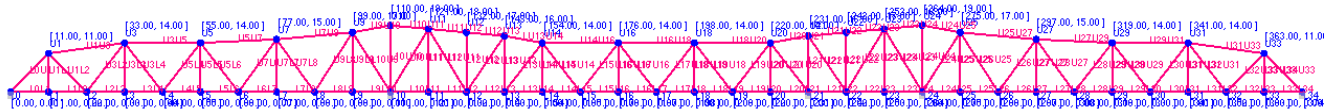

Figure 1
1. Figure 1 shows the schematic of the example truss bridge. The span layout is 110 ft, 154 ft and 110 ft. The suspended span length is 88 ft.